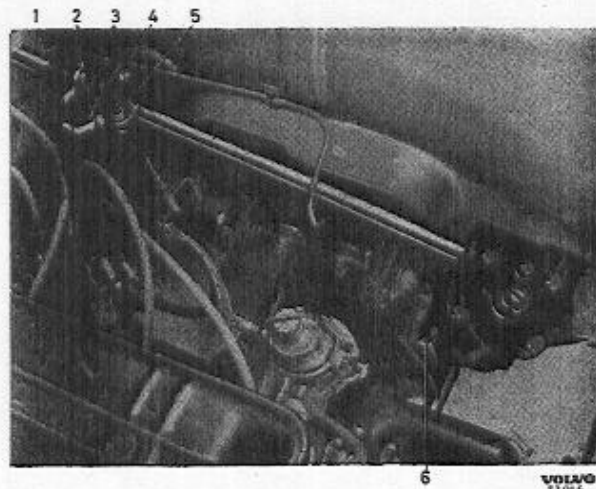

Fig. 23. Steering box.
2. Unscrew the two nuts (2 and 4, Fig. 23) and remove the bolts.
4. Unscrew and remove the three attaching bolts (6, Fig. 23).
1. Wash the steering box clean externally and remove the carrier (5, Fig. 23) from the steering column.
1. Place the steering worm in position. Be careful when moving the carrier past the brake line. Fit the attaching bolts (6, Fig. 23).
2. Assemble the carrier (5) to the coupling disc (3). Do not forget the earth lead (1).
3. Adjust the position of the steering worm so that there is the least possible strain on the coupling disc, that is to say, the upper and lower parts of the steering column should form a straight line. Tighten the attaching nuts (6).